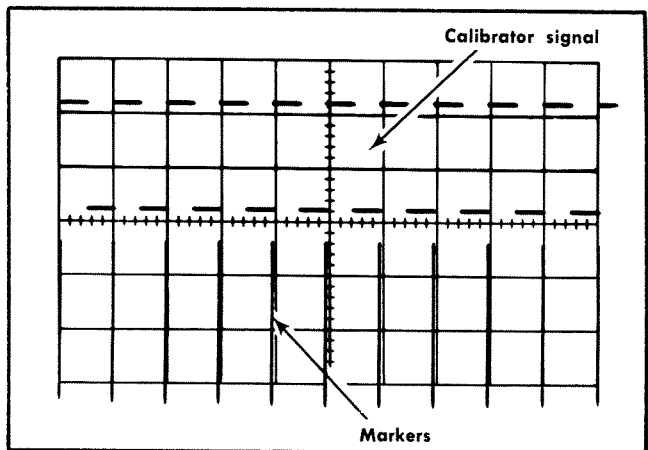

Fig. 5-14. Typical CRT display showing correct calibrator repetition rate.
- g. CHECK—For one cycle of calibrator waveform for each marker (see Fig. 5-14).
- f. Position the test oscilloscope display so the tips of the markers fall just below the rising portions of the square wave (see Fig. 5-14).